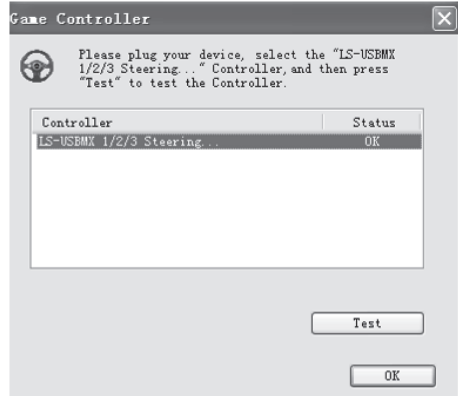
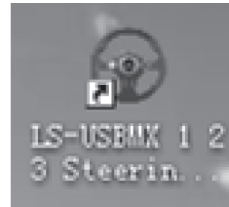
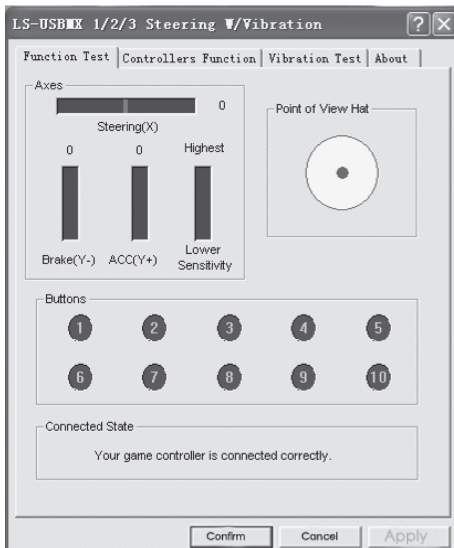

Fig. 4
Fig. 5
Fig. 6
- Insert Software CD disk into the disk drive of your PC and launch setup.exe to install drivers on your PC. There should automatically appear Game Controller window on the your PC (Fig. 4). Also, there will open up icon LS-USBMX 1 2 3 Steerin... (Fig. 5) which is convenient for further adjustments.
- Press Test (Fig. 4), and there will appear LS-USBMX 1/2/3 Steering window (Fig. 6) on the display of your PC. Here you can make main settings of axes and keys.